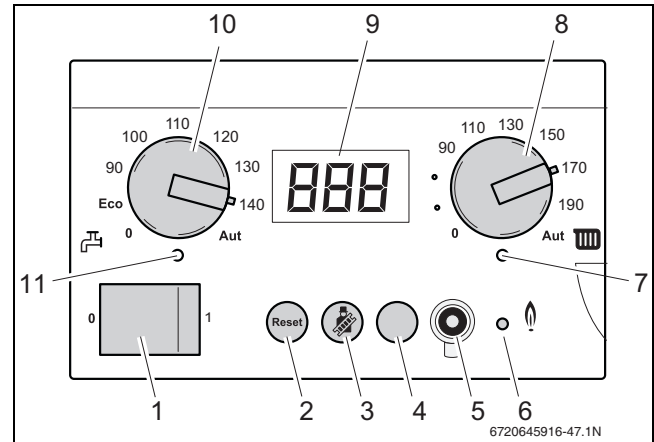

Fig. 65 BC10 basic controller
- ▶ Switch ON the appliance by pressing the main switch of the BC10 basic controller (→ fig. 65, [1]).
- ▶ Press and hold the "Chimney sweep" button (→ fig. 65, [3]) (approx. 2 seconds), until the dot in the right-hand bottom corner of the display (→ fig. 65, [9]) appears (→ table 12, page 31).
- ▶ After the LED "Burner operation" (→ fig. 65, [6]) has lit up wait for 1 minute until the boiler is burning at full load.
- ▶ Press the "Service" button (→ fig. 65, [4]) repeatedly until the temperature reading is shown in the display.
- ▶ Press the "Chimney sweep" button (→ fig. 65, [3]) to clear the reading (→ table 12, page 31).
- ▶ Switch OFF the heating system by pressing the main switch of the BC10 basic controller (→ fig. 65, [1]).
- ▶ Switch ON the heating system by pressing the main switch of the BC10 basic controller (→ fig. 65, [1]).
- ▶ Press and hold the “Chimney sweep”  button (→ fig. 65, [3]) (approx. 2 seconds), until the dot in the right-hand bottom corner of the display appears (→ fig. 65, [9]) (→ table 12, page 31).
- ▶ After the LED “Burner operation” (→ fig. 65, [6]) has lit wait for 1 minute until the boiler is burning at full load.
- ▶ Press the “Chimney sweep”  button (→ fig. 65, [3]) to clear the reading (→ table 12, page 31).
- ▶ Press and hold the “Chimney sweep”  button (→ fig. 65, [3]) (approx. 2 seconds), until the dot in the right-hand bottom corner of the display (→ fig. 65, [9]) appears (→ table 12, page 31).
- ▶ After the LED “Burner operation” (→ fig. 65, [6]) has lit up wait for 1 minute until the boiler is burning at full load.
- ▶ Switch OFF the appliance by pressing the main switch of the BC10 basic controller (→ fig. 65, [1]).